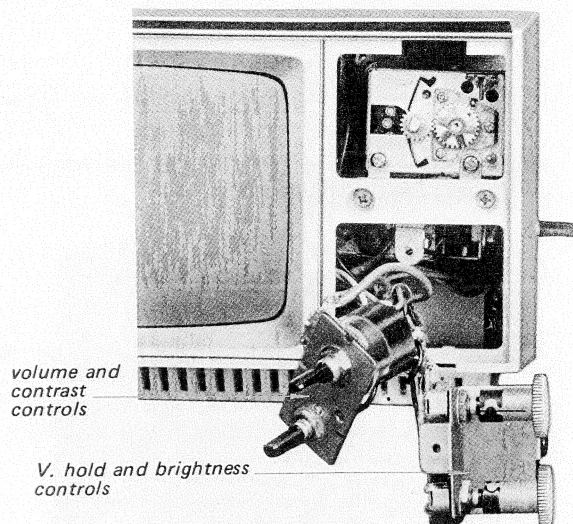

Fig. 2-23
3. Pull out the volume and contrast controls as shown in Fig. 2-23.
4. Pull out the vertical hold and brightness controls as shown in Fig. 2-23.